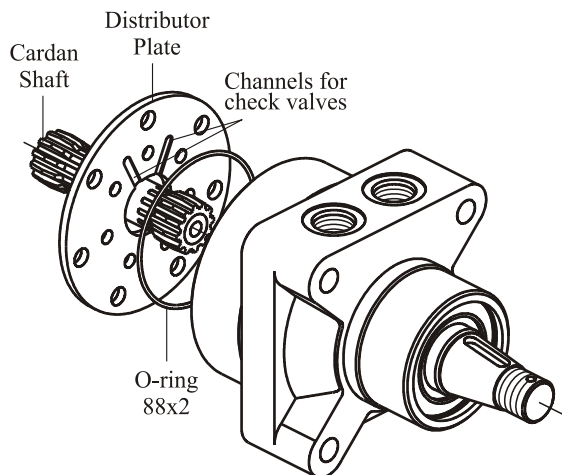

Fig.13
14. Lubricate and install O-ring in housing seal groove (see Fig.13).
**Important:** Orient the check valve channels on distributor plate to the check valves in the housing (see Fig.13).